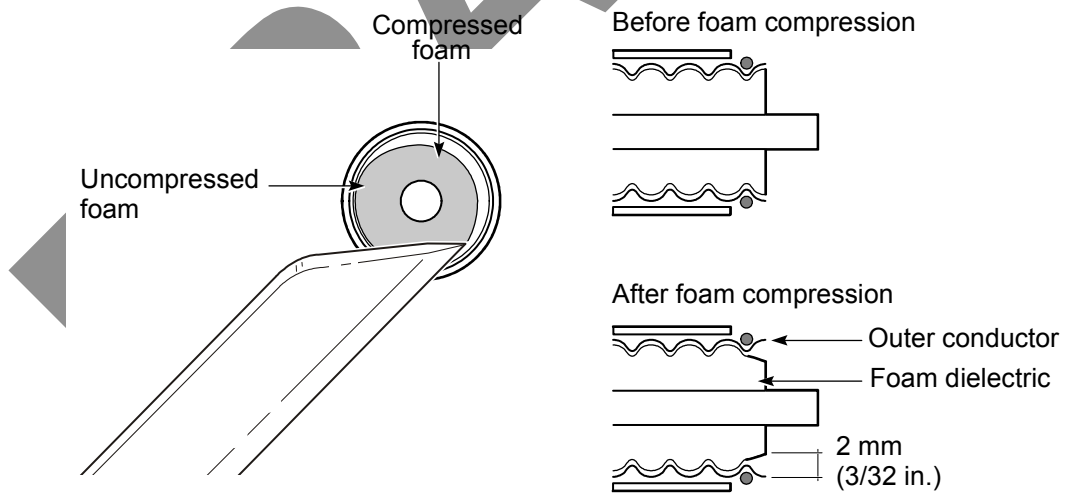

Figure 63 – Compressing the foam dielectric
8. Use a knife to compress the foam dielectric away from the outer conductor as shown in Figure 63.